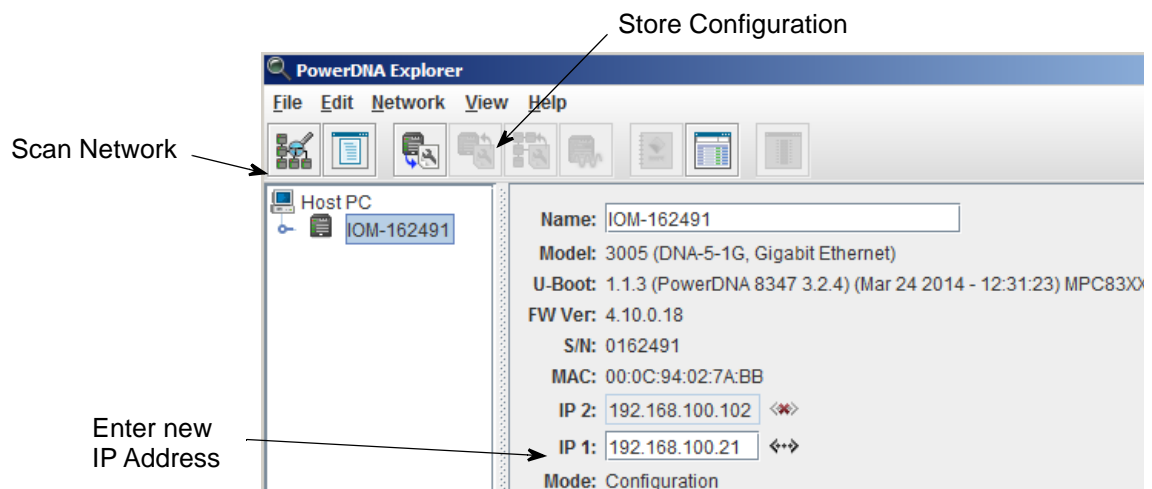

Figure 3-2. Using PowerDNA Explorer to Change IP Address
- STEP 1:** Click **Scan Network** to explore your system (refer to **Figure 3-2** below).